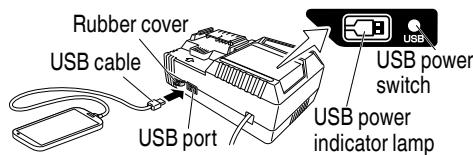

Fig. 9
- (2) Turn the USB power switch ON (Fig. 9)
## (3) Connect the USB cable. (Fig. 9)
- Turn the USB power switch OFF and unplug the power cord from the electrical outlet. (Fig. 9)